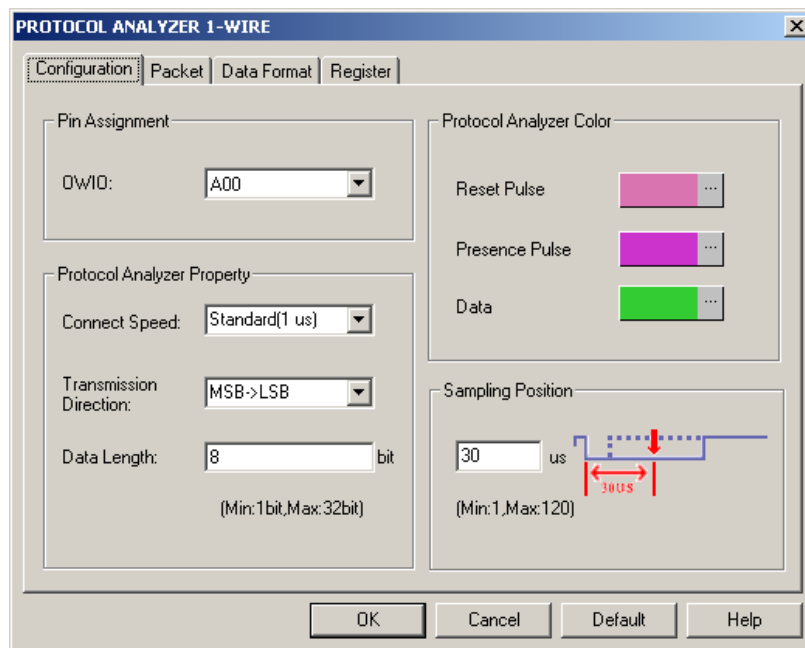

Fig4-101 - Protocol Analyzer 1-WIRE Configuration dialog box
- (1) To initialize Write Data, Master will convert the Data Line from the high logic to the low.
- (2) There are two types of Write time slot: Write 1 Time Slot and Write 0 Time Slot.
- (3) During a write cycle, all Write time slots must have duration of at least 60us and a recovery period of 1us.
A. Write 0: If the sampling is low, 0 is generated as in fig4-101: